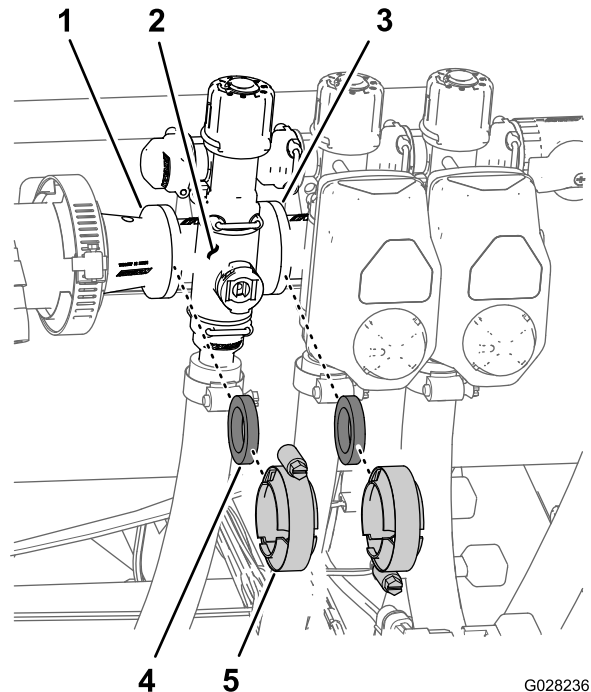

Figure 114
1. Remove clamps and gaskets that secure the manifold for the section valve (Figure 114) to the adjacent section valve (if left, section valve and reducer coupling).